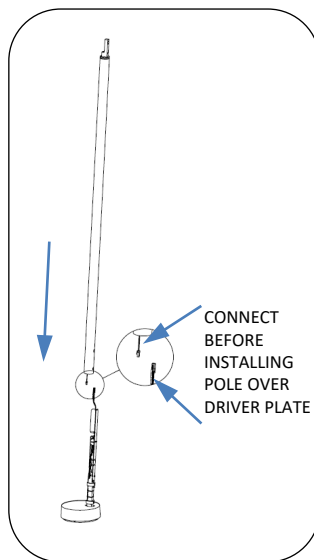

Fig. 5 – Install round pole over driver plate
12. Make wiring connection from harness in round pole to the connector on the driver plate bracket, see Fig. 5.